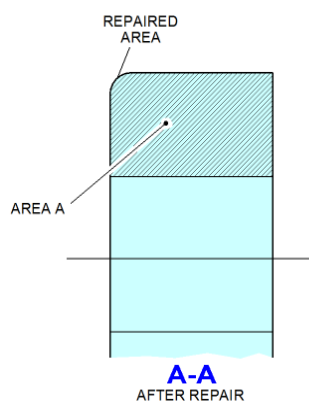

Figure 7 - Repair Acceptance Criteria
(4) If the minimum cross sectional area (Area A, see Fig. 7) of the catcher in the repaired areas is less than 1155 sqmm after repair.